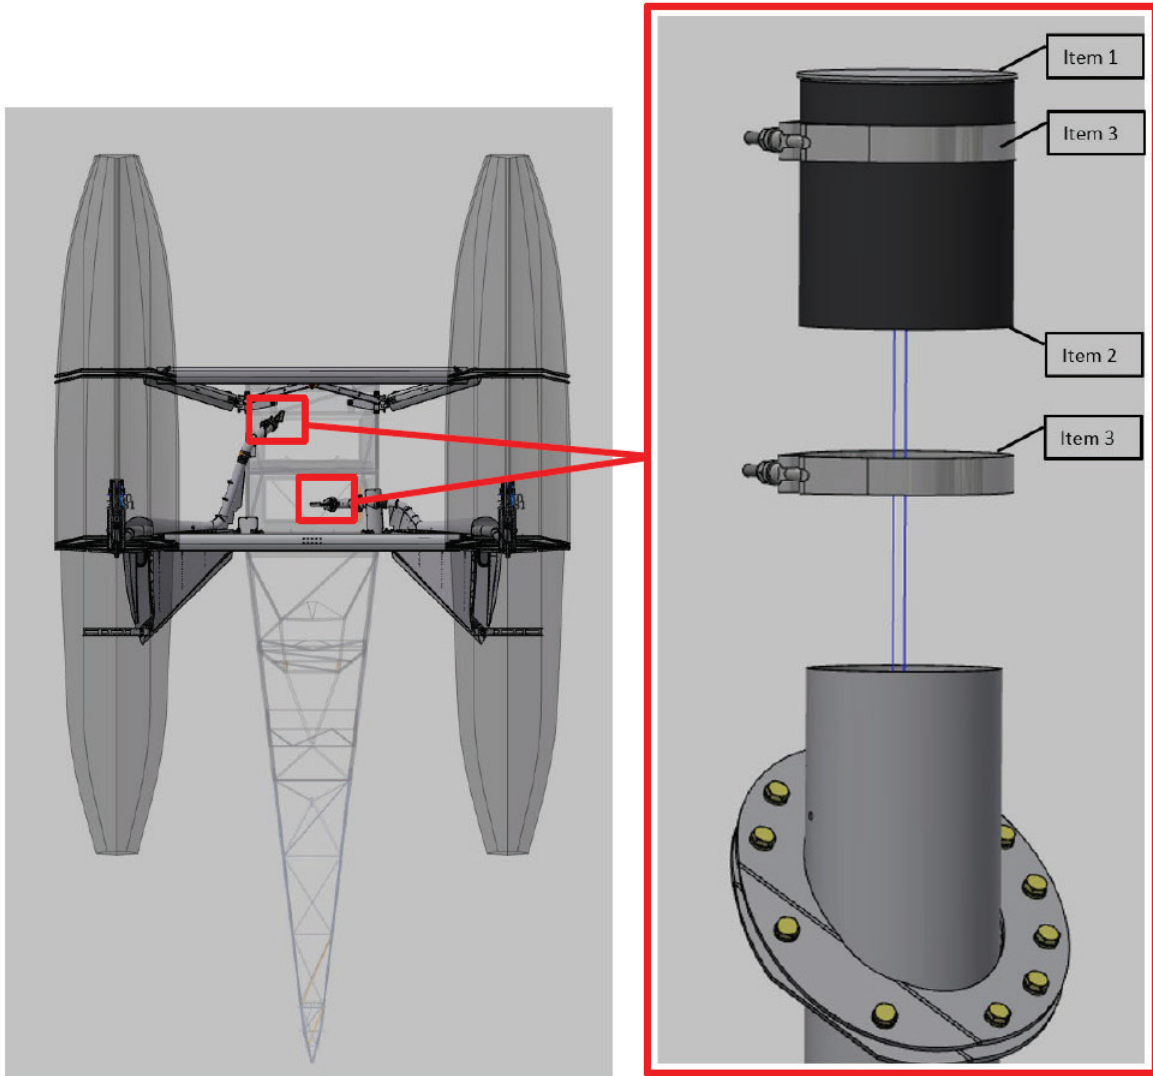

Figure 3 - Plug Assembly
8. Pre-assemble the plug (item 1) into the hose coupling (item 2) using pro-seal with bolt hose clamp (item 3) to make 2 assemblies. Install the assembly onto the forward and aft fill tubes using pro-seal during the installation. (See Figure 3).
7. Remove the forward and aft fill tube caps. (See Figure 3).